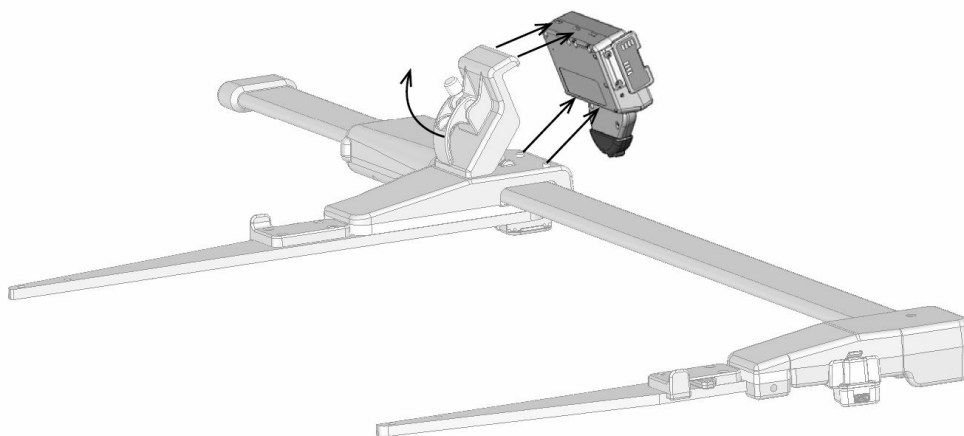

Figure 5. Schematic of how to mount the DP II handheld device onto the SmartScale caliper (taken from the DP II User Manual, Haglöf Sweden AB).
- Mount the DP II handheld device onto the SmartScale Caliper (Fig. 5).